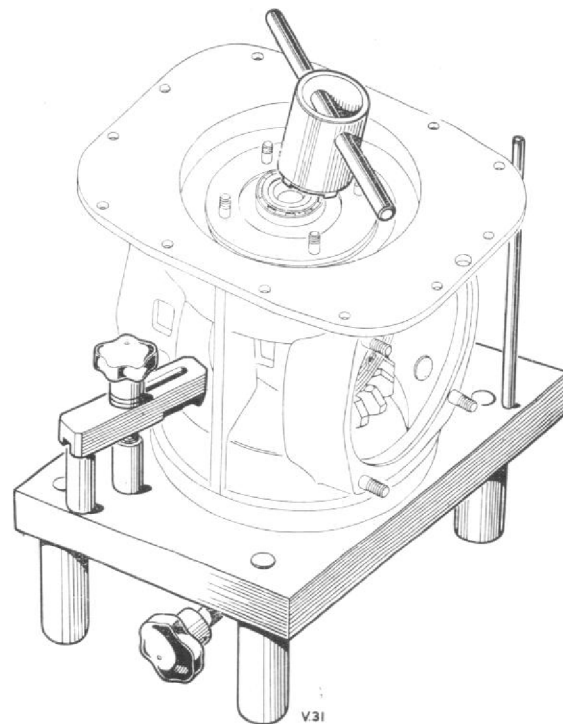

Fig. 2. Vice block T.74912 and spanner T.72556, used to remove horizontal drive ring nut.
1. Clamp the centre housing in vice block T.74912, Fig. 2. Unlock and remove the four $\frac{5}{16}$ in. B.S.F. nuts and tab washers which secure the upper vertical gear bearing housing.
2. Open up the cup locking washer and, using spanner T.72556, remove the ring nut and locking washer, Fig. 2.